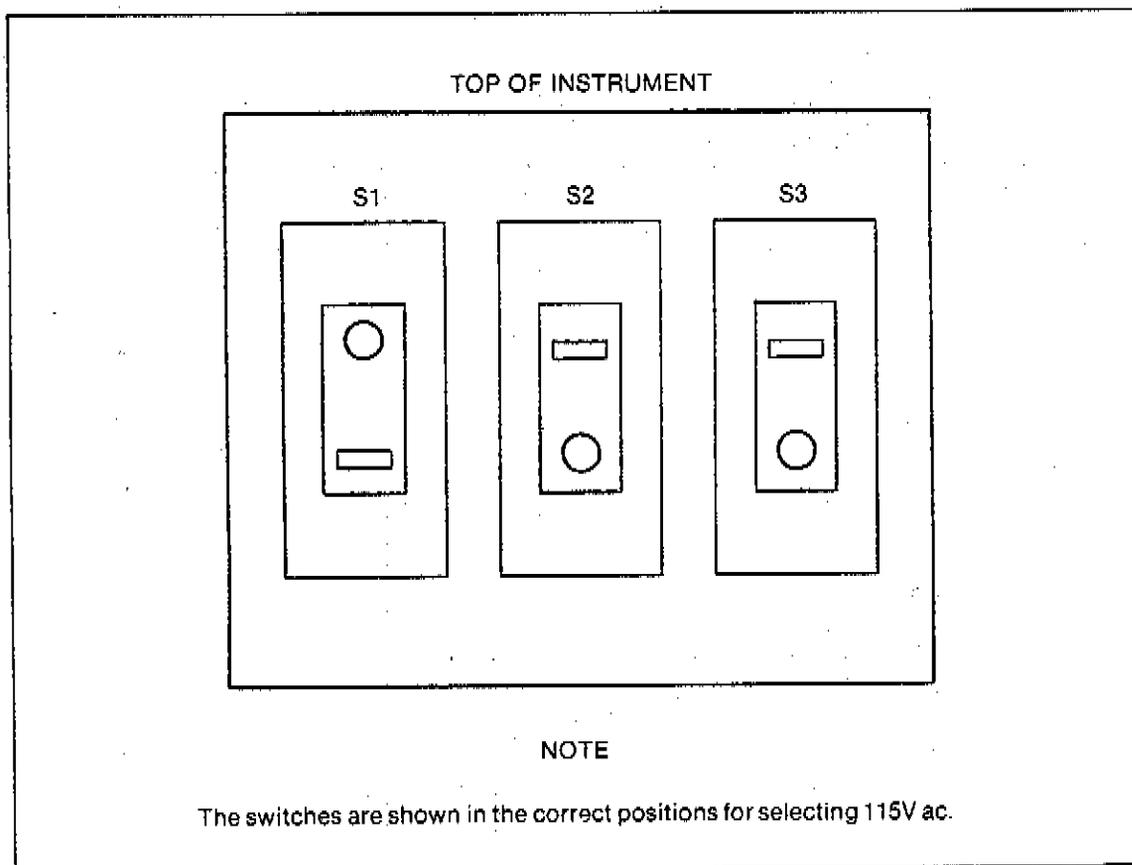

Figure 3-2. Line Voltage Select Switches
2. Set the line voltage select switches, shown in Figure 3-2, to the positions listed for that range in Table 3-2.